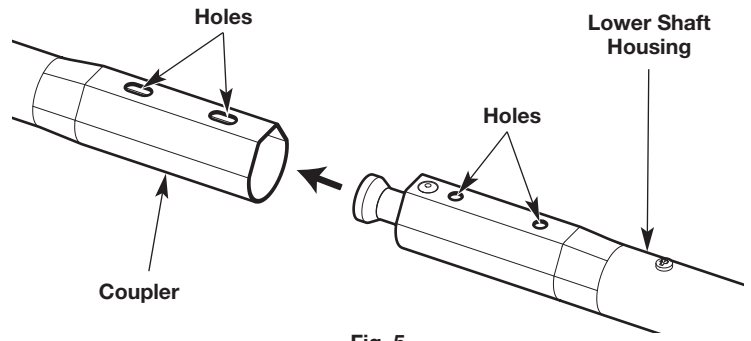
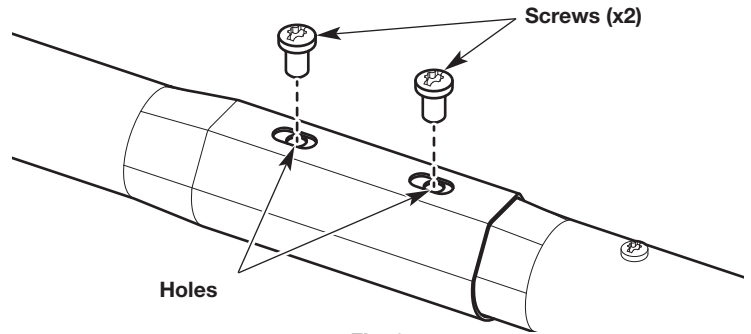

Fig. 5
Fig. 6
2. Turn the upper portion of the unit upside down. The holes on the coupler should face up (Fig. 5).
3. Turn the lower portion of the unit upside down. The holes on the lower shaft housing should face up (Fig. 5).
4. Push the lower shaft housing into the coupler (Fig. 5). The holes on the lower shaft housing should align with the holes on the coupler (Fig. 6).
5. Insert the screws (x2) into the aligned holes (Fig. 6).